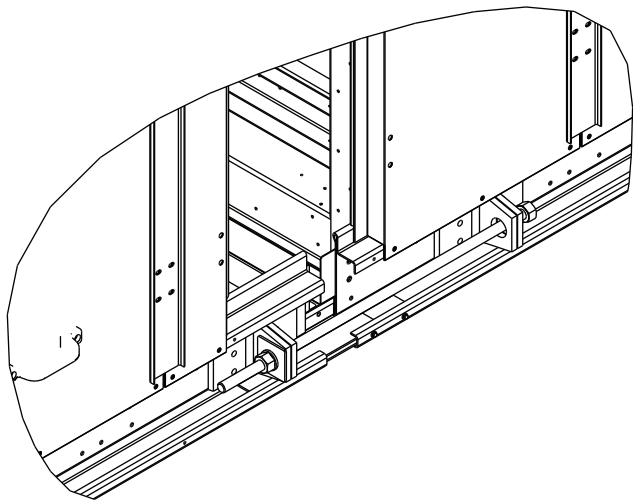

Fig. 41 — Secure Base Rails
10. Using 3/4-in. x 30-in. threaded rod, nuts, washers and backing plates provided, pull and secure the base rails together. See Fig. 41.